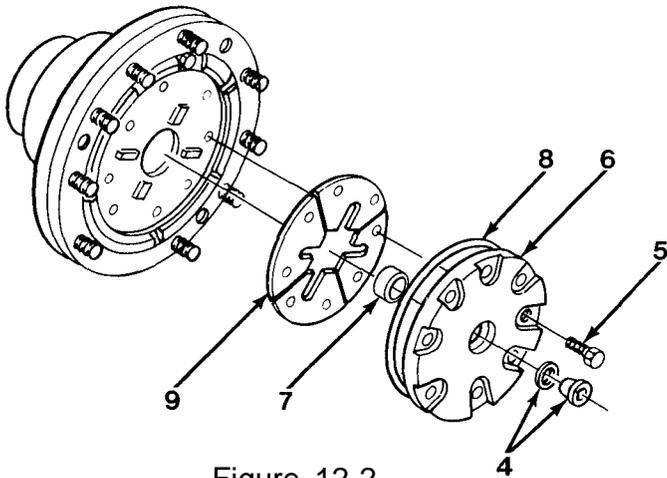
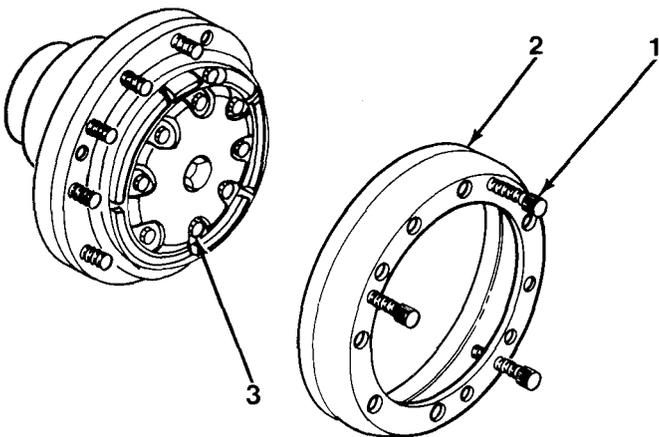

Figure 12-2
Figure 12-1
7. Install four sector plates (9, Figure 12-2).
8. If removed, install thrust plug (7) into wheel end cover.
9. Lubricate O-ring (8) and install onto wheel end cover (6).
10. Install wheel end cover (6) with eight bolts (5) and torque to 58 lb-ft (79 N•m).
11. Install drain plug (3, Figure 12-1).